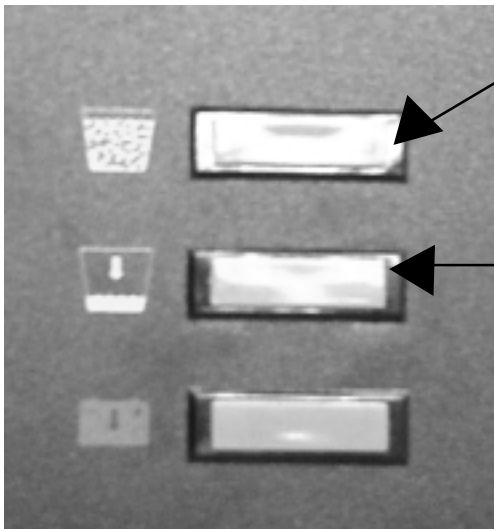

Figure 15
**RECOVERY HIGH LIGHT (See Figure 15)**
**LOW SOLUTION LIGHT (See Figure 15)**